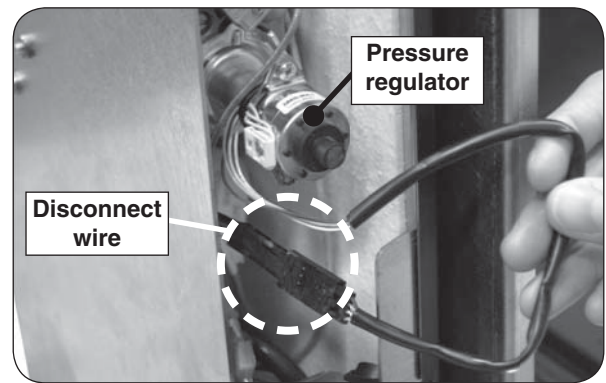

Fig. 2-1 Disconnect wire
1. Located on the valve is the pressure regulator that is to be removed. First disconnect the wire coming out of it. See Fig. 2-1.